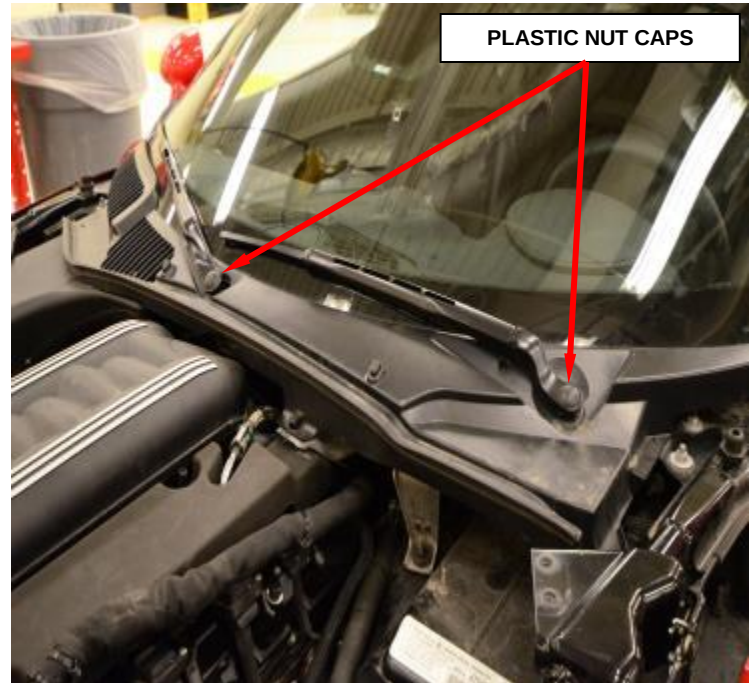

Figure 28 – Wiper Arms
- b. Carefully pry the plastic nut cap off of the nut on the pivot end of the wiper arm (Figure 28).